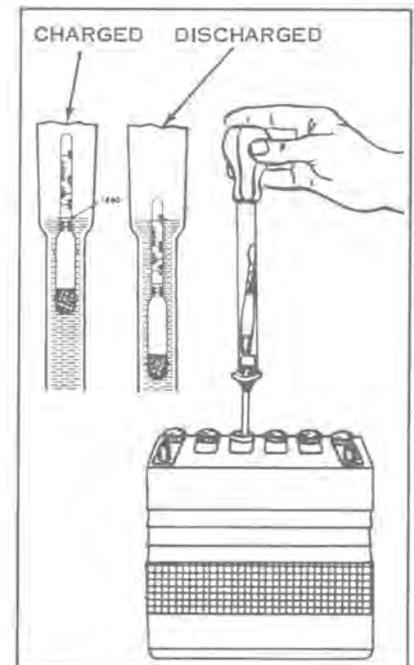

Figure 7-43
4. Keep the battery nearly fully charged at all times. Check the state of charge at frequent intervals by making specific gravity readings with a battery hydrometer (see Figure 7-43). Note that a hydrometer reading is not accurate if water has been added recently, due to the fact that the water may not be mixed with the electrolyte.